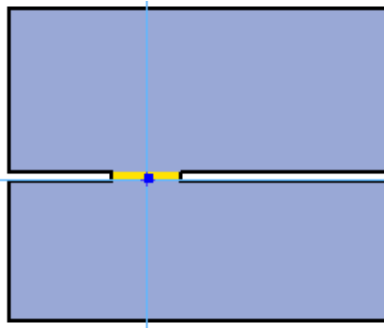

Figure 91. Click inside the gap
3. Once the appropriate parameters have been entered, move the cursor over the desired doorway (Figure 91). A door preview will be displayed. If it doesn't, adjust the search parameters in the property panel and try again.